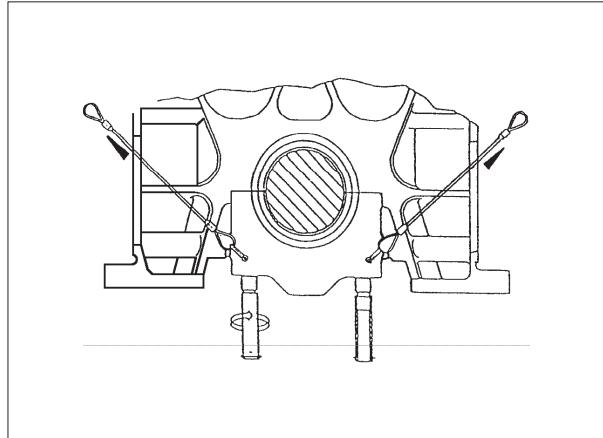

Fig 2. Mounting of Wire Straps.
- 6) Fit the eye screws, diagonally, in the threaded holes in the guide bearing cap, *see fig 2*.